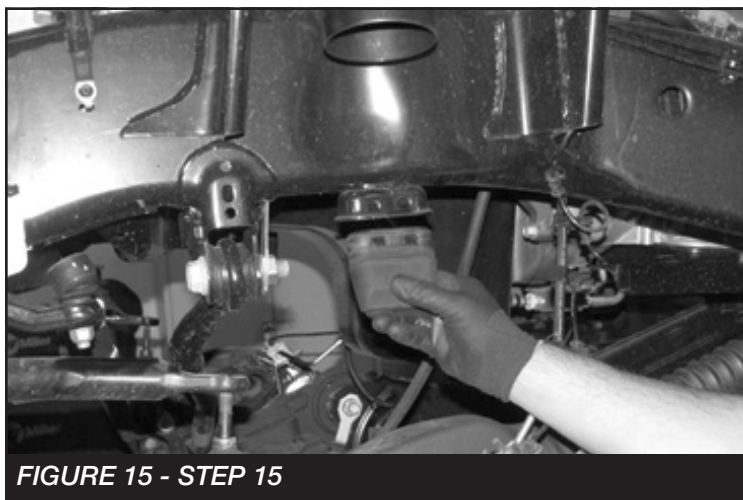

FIGURE 15 - STEP 15
15. Remove the factory bump stop and discard. **SEE FIGURE 15**